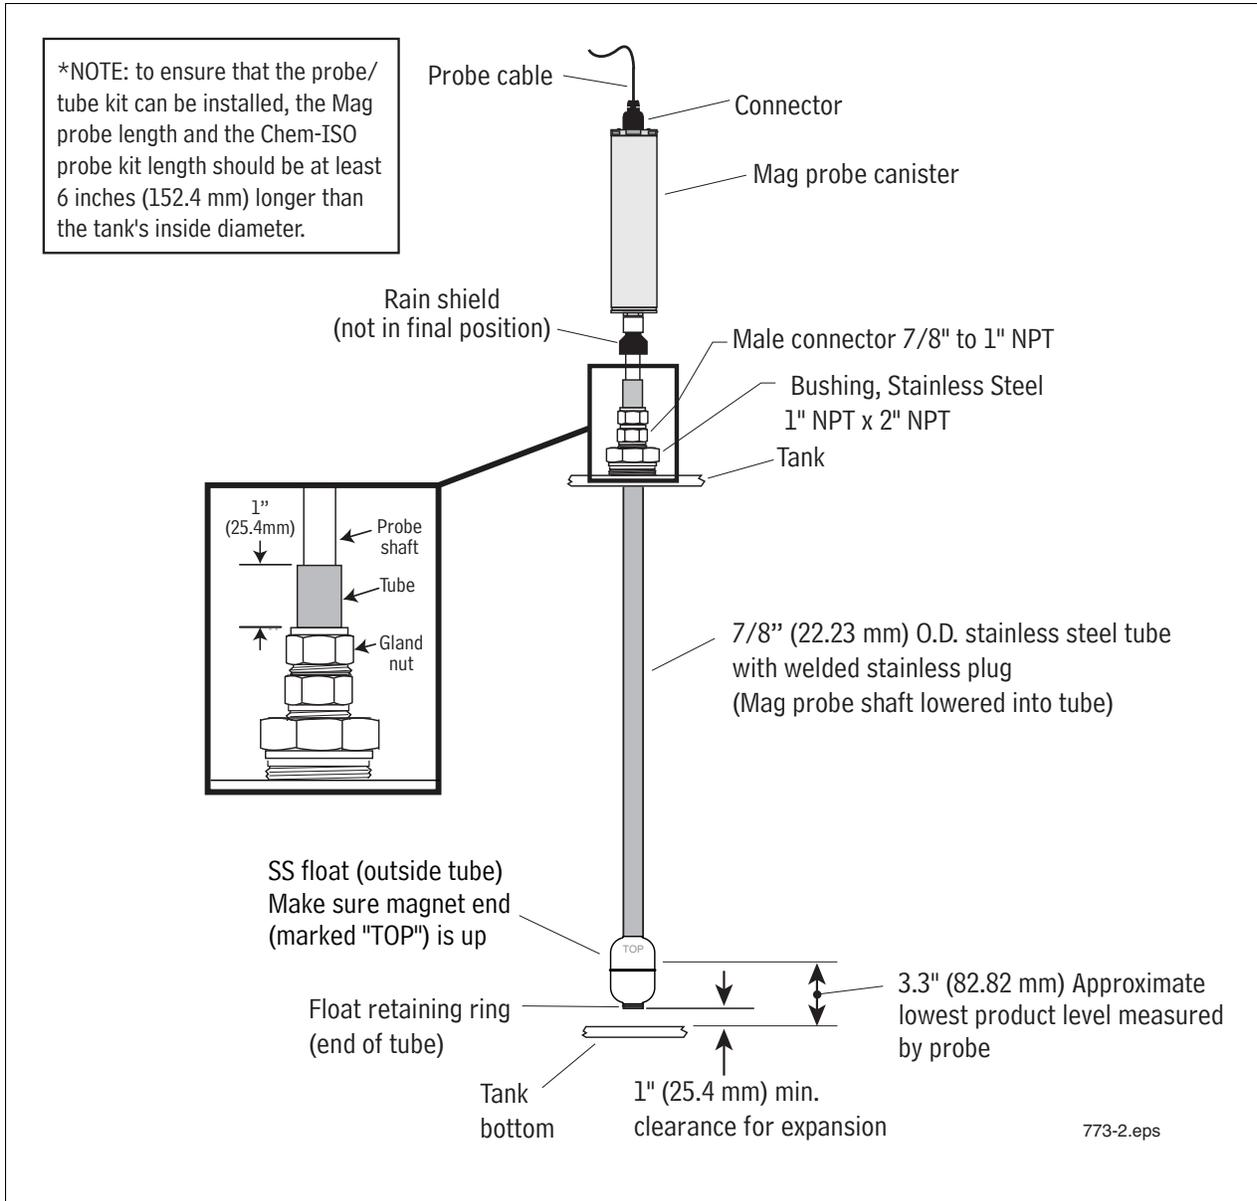

Figure 2. Media Isolated Mag Plus probe installation example
1. With the float against the retaining ring, carefully lift the open end of the tube up and lower the assembly, float end first, into the tank until the tube rests on the bottom of the tank (Figure 2). Carefully slide the stainless steel reducing bushing, large end first, down over the tube until it rests against the tank opening. Apply UL classified sealant suitable for use with the product in the tank to the outside bushing threads that will be screwed into the tank fitting. Screw the bushing into the tank fitting. Tighten the bushing as required to ensure a proper seal.
3. Push the tube down until it rests on the tank's bottom. Using a felt marker, make a mark on the tube at the top of the gland nut. Raise the tube until the mark is 1-inch (25.4 mm) above the nut, then hand tighten the gland nut until the tube is held in place (this distance is necessary for expansion and contraction of the tank). Tighten the gland nut one and one quarter full turns beyond hand tight to crimp the ferrules to the tube and create the proper seal. Note that with the bottom clearance set at 1 inch (25.4 mm), the lowest level the probe can measure in the tank is approximately 2 inches (50.8 mm) (see Figure 2).